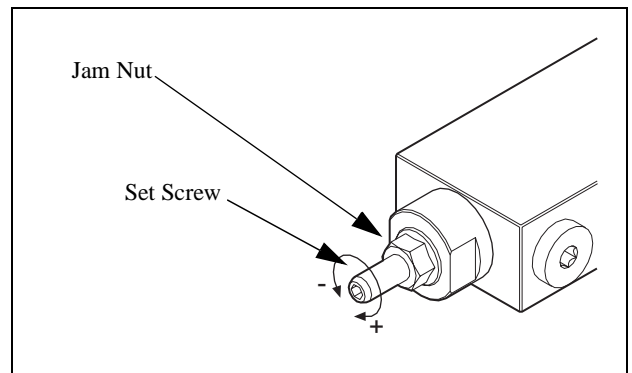

Fig. 28 Adjust the tension pressure
7. If necessary, shut down the machine and adjust the tension pressure at the set screw on the pressure regulating valve. *See Fig. 28.*